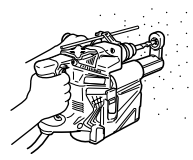

Fig. 8
- (1) Mount the drill bit.
- (2) Pull the trigger switch after applying the drill bit tip to the drilling position (Fig. 8)